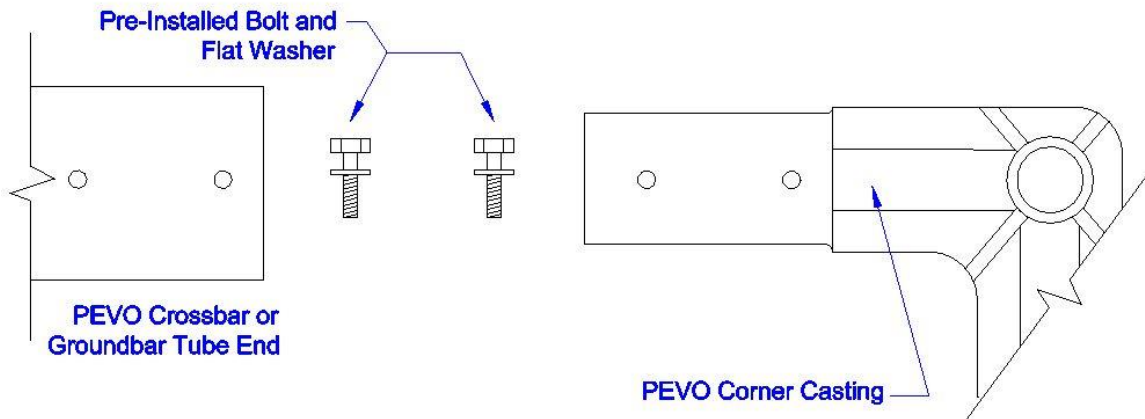

Figure 1. Crossbar with Corner Casting and Hardware.
6. Install Bolt through washer and into threaded hole in Upright Stub. Use **finger pressure** to turn bolt to insure proper threading occurs. (See Figure 1)
8. Repeat steps 5-7 to secure opposite Upright/Backstay Assembly to opposite end of Crossbar. (See Figure 1)